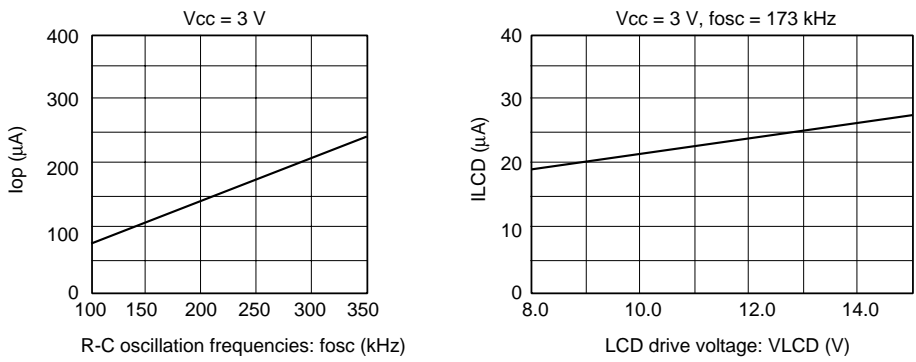

Figure 61 Relationship between the Operation Frequency and Current Consumption
- 7. The following shows the relationship between the operation frequency (fosc) and current consumption (Icc) (figure 61).